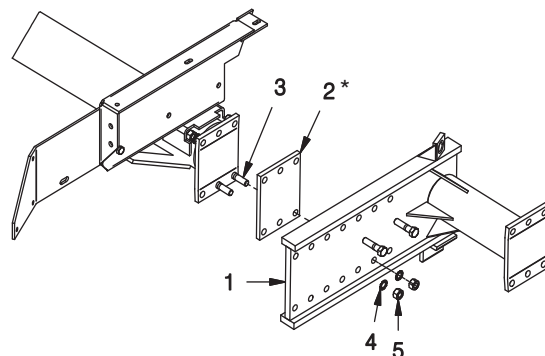

Figure 1 - Mounting Spacer Plate & Tandem Plate
A. Place (2) R13807958 Bolts on the axle and tandem wheel plate as shown in Figure 1. Place (1) F000007636 Spacer Plate and (1) 901620 Tandem Wheel Plate on the axle as shown in Figure 1. Place (2 more) R13807958 Bolts. Torque all nuts and bolts as per torque chart on page 1.